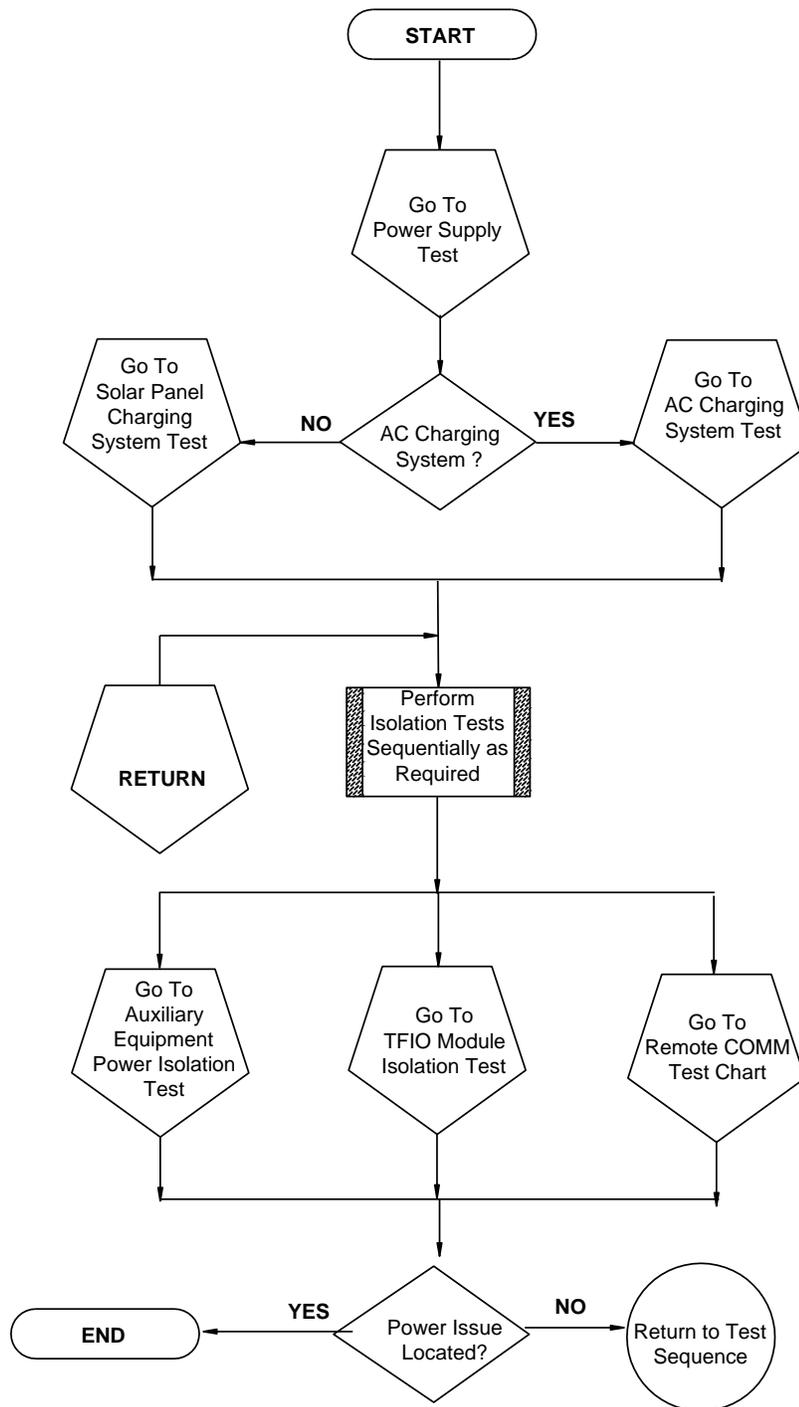

Figure 97: Power Troubleshooting Flowchart
IMPORTANT NOTE: Notice that the *Power Troubleshooting Flowchart* (Figure 97:) takes the user through several tests but also directs the user to the *Communication Troubleshooting Flowchart* located further in this chapter.
11. Compare the voltage. If the charging source voltage is less than (+) 0.4 Vdc higher than the battery voltage, return to Figure 97: and continue.
16. Return to the Power Troubleshooting Flow Chart (Figure 97:), if power drain has not been located.